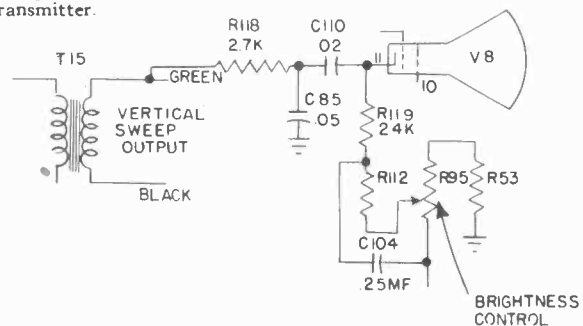

Fig. 36. Brightness Control and Vertical Retrace Blanking ("T" production)
**PICTURE TUBE BRIGHTNESS**—R53, part of the picture tube brightness control circuit in "T" chassis receivers, was changed during this production to fix the minimum bias on the picture tube. This resistor, shown in Figure 36 connected from the Brightness Control to ground, was changed to 220,000 ohms. This change prevents blooming of the picture (excess brightness), and change in picture size, as the Brightness control is advanced to maximum at the clockwise position.
**REMOVAL OF RETRACE LINES (R118, R119, C85 AND C110)**—The components R118, R119, C85 and C110 were added during "T" chassis production and are connected as shown in Figure 36, Brightness Control Circuit for "T" Receivers. The addition of these components results in a relatively high positive voltage supplied to the picture tube cathode from the vertical sweep output circuit during vertical retrace. The picture tube is biased to cut-off, resulting in most of the retrace lines being eliminated from the screen. This is an operating advantage since it eliminates the need for readjustment of the Brightness or Contrast Control, to remove retrace lines which oftentimes accompany a change in cameras or program material that takes place at the transmitter.